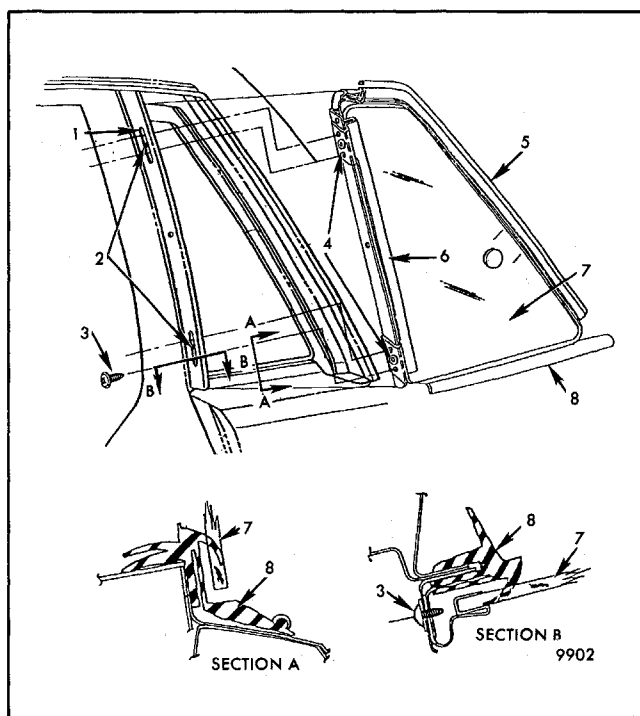

Fig. 6-35-Quarter Swing-out Window Glass Assembly Installation - A-19 Style Shown; A-09 Style Similar
1. Remove front quarter window reveal molding (on rear body lock pillar) to expose slot, hinge attaching screws and rivets (1,3,4, Fig. 6-35).
2. Using a 3.2 mm (1/8") drill bit, drill out rivets which hold hinge to rubber channel assembly (4, Fig. 6-35). (Reinstallation of hinge rivets is not necessary; they are for production purposes only.)
3. Loosen hinge to body attaching screws (3, Fig. 6-35) and adjust inboard or outboard, up or down as necessary.
2. Remove front quarter window reveal molding (on rear body lock pillar) to expose slot, hinge attaching screws, and rivets (1,3,4, Fig. 6-35).
3. Using a 3.2 mm (1/8") drill bit, drill out rivets which hold hinge to rubber channel assembly (4, Fig. 6-35).
4. Remove hinge to body attaching screws (3, Fig. 6-35), then carefully remove glass assembly (7, Fig. 6-35) outboard.
3. Remove rear quarter window reveal molding (5, Fig. 6-35) from body.
1. Remove glass assembly (7, Fig. 6-35) as previously described.
2. Remove rear quarter window reveal molding (5, Fig. 6-35) as previously described.